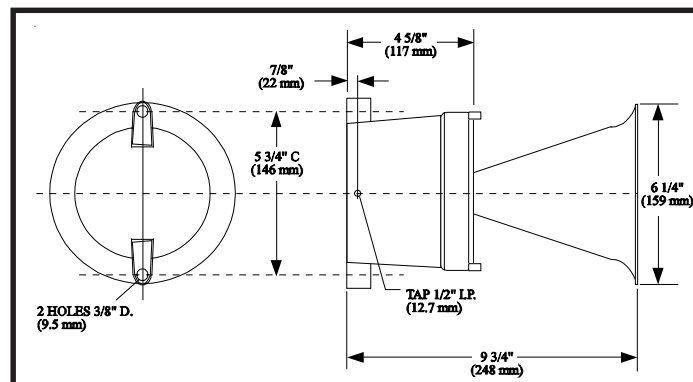

Figure 1. Single Projector Unit (B-KM-8130 Series)
1. Mount the horn assembly securely to a flat surface in the desired location with (2) screws through the 3/8" (9.5 mm) diameter holes in the housing. See Figure 1.